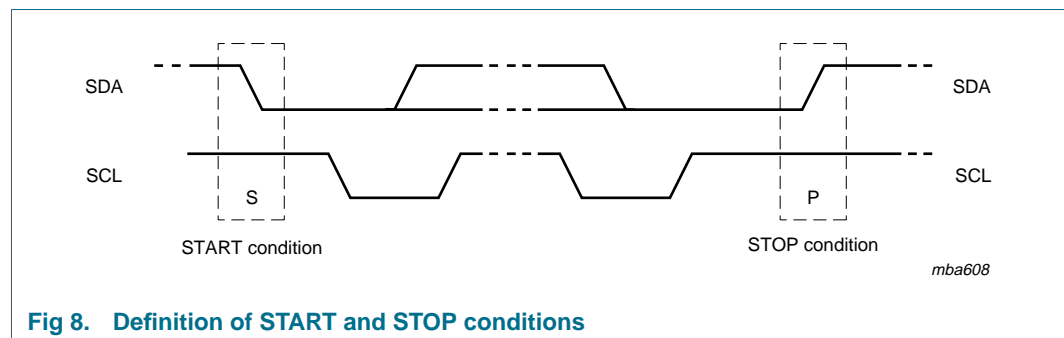

Fig 8. Definition of START and STOP conditions
Both data and clock lines remain HIGH when the bus is not busy. A HIGH-to-LOW transition of the data line while the clock is HIGH is defined as the START condition (S). A LOW-to-HIGH transition of the data line while the clock is HIGH is defined as the STOP condition (P) (see Figure 8.)